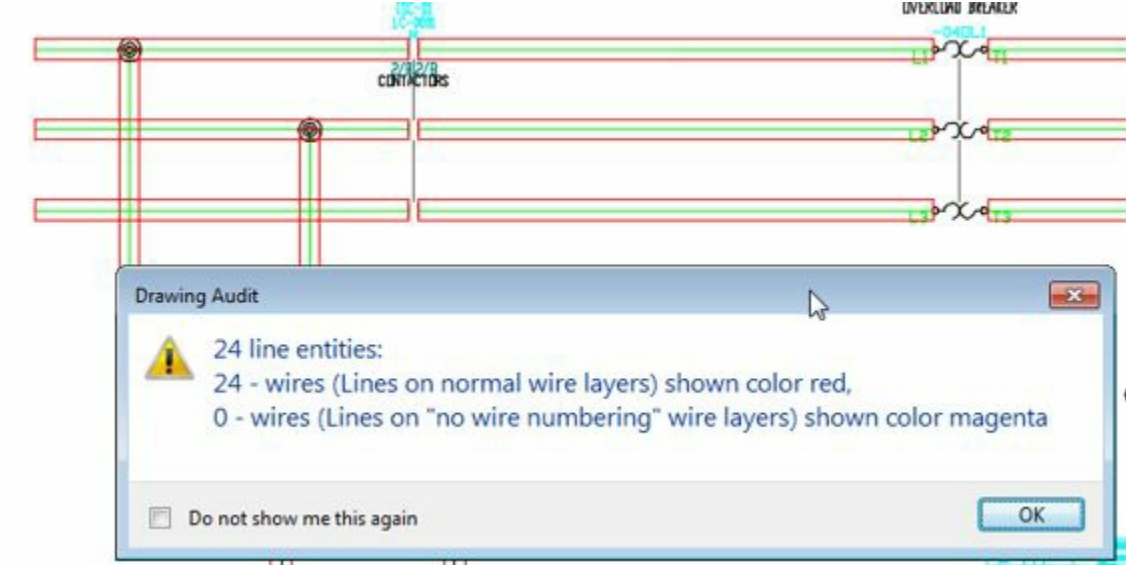

Figure-21. Wires highlighted
- Select the desired check boxes and click on the **OK** button from the dialog box. The selected components will be highlighted; refer to Figure-21.